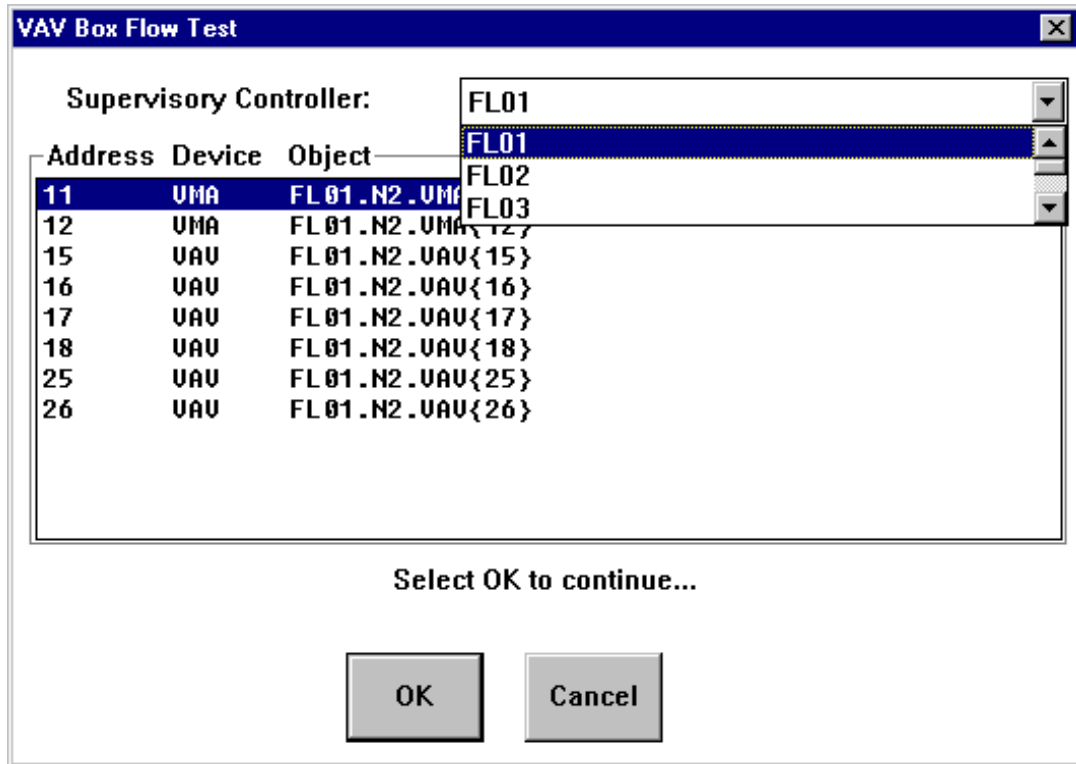

Figure 17-18: VAV Box Flow Test Dialog Box
3. Verify the Flow Test Parameter values and click OK. HVAC PRO software displays the dialog box shown in Figure 17-18.